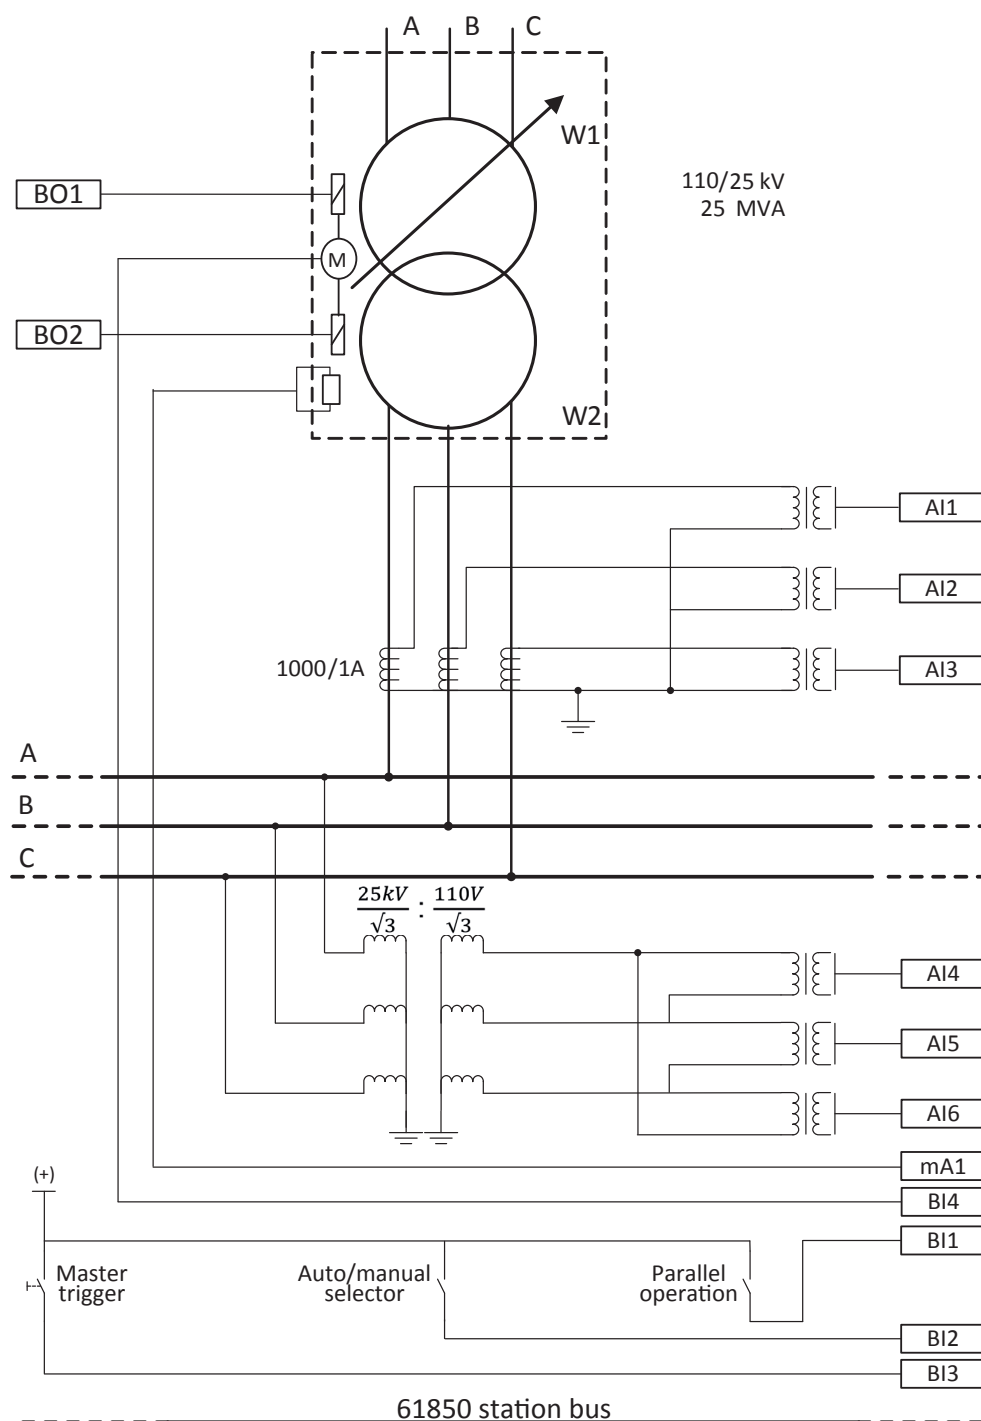

Figure 55: Relay 3 interfaces and CT/VT connections for TR3 in example case 3
Figure 55 shows the connection details of the relay's (Relay 3) analog inputs (AI), binary inputs (BI), milli-Ampere (mA) inputs and binary outputs (BO) for transformer TR3 of the example case. The CT connections for phase current measurements in all phases and the VT connection for voltage measurement on the MV side are also shown. In the example case illustrated, the tap changer position value is input as an mA input for transformer TR3 and input to TPOSYLTC.